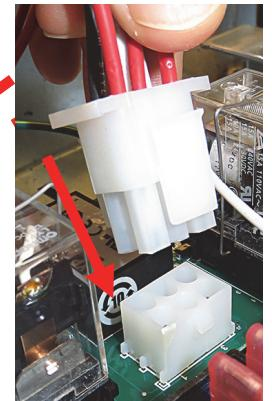

**Figure 19**
23. Insert the 12-pin female end into the opening in the bottom of the basket lift assembly box (see Figure 19).